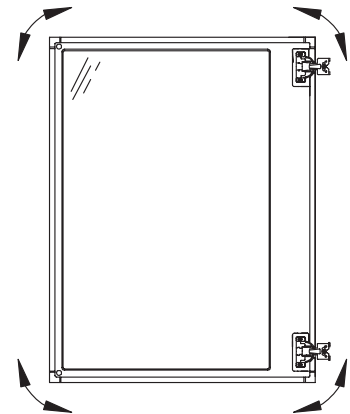

Fig. 12 图 12
- A. This screw releases the door from the cabinet and allows up and down adjustment. Fig. 12.